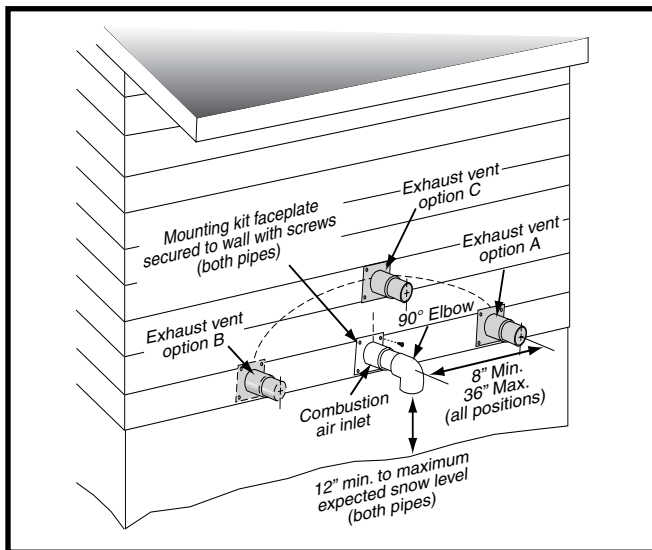
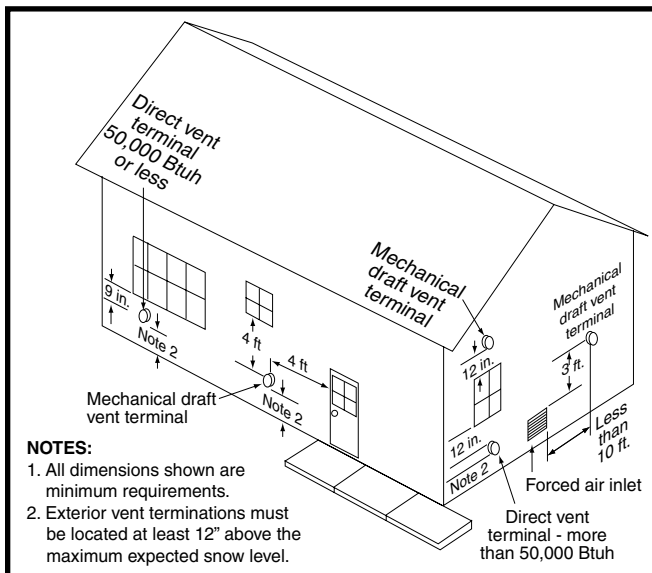
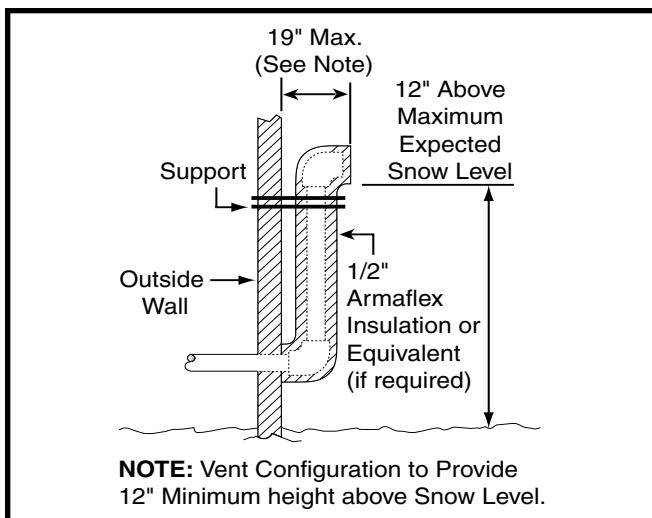

Figure 7. Inlet & Exhaust Pipe Clearances
Figure 8. Vent Locations
Figure 9. Alternate Horizontal Vent Installation
- Vent and combustion air intake terminations shall be installed as shown in Figure 7 & Figure 8 and in accordance with these instructions:
- All minimum clearances must be maintained to protect building materials from degradation by flue gases. See (Figure 8).
to obtain clearances shown in Figure 7, a riser may be provided as shown in Figure 9 (page 12). Insulation is required to prevent freezing of this section of pipe. See Table 3 (page 17) for vent freezing protection.